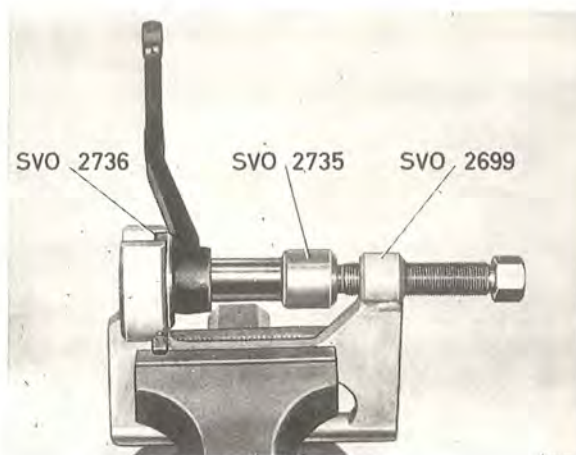

Fig. 6-44. Fitting the rubber bush, relay arm
5. Turn the relay arm and press in the new bush with tools SVO 2699+SVO 2736 and drift SVO 2735 (see Fig. 6-44).
6. Place the relay arm in position, fit the washer (7) and the nut. Tighten the nut to a torque of 7.0—8.5 kgm (50—60 lb.ft.).